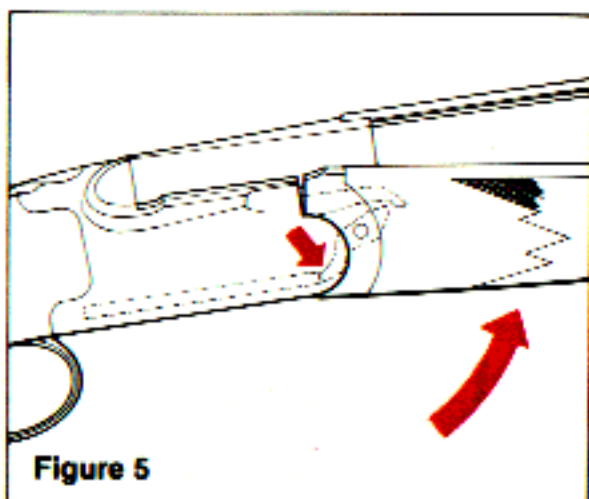

Figure 5
(5) Place rear end of the forend iron over the ends of the ejectors as shown in Figure 5, and swing the front end of the forearm upward until the forend latch lever catches the forend latch hook on the underside of the lower barrel, and the forend assembly snaps into its locked position.